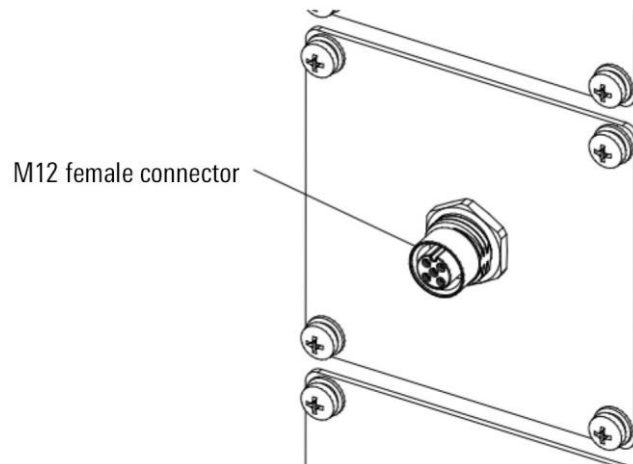

Figure 2-6 M12 female connector
Step2. Install the M12 female connector (reference Figure 2-6) on the M12 connector mounting plate.